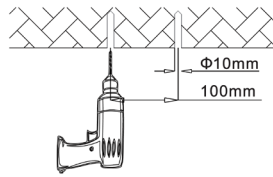

Fig. 3
1. Mark the mounting surface and drill. (Fig. 3)